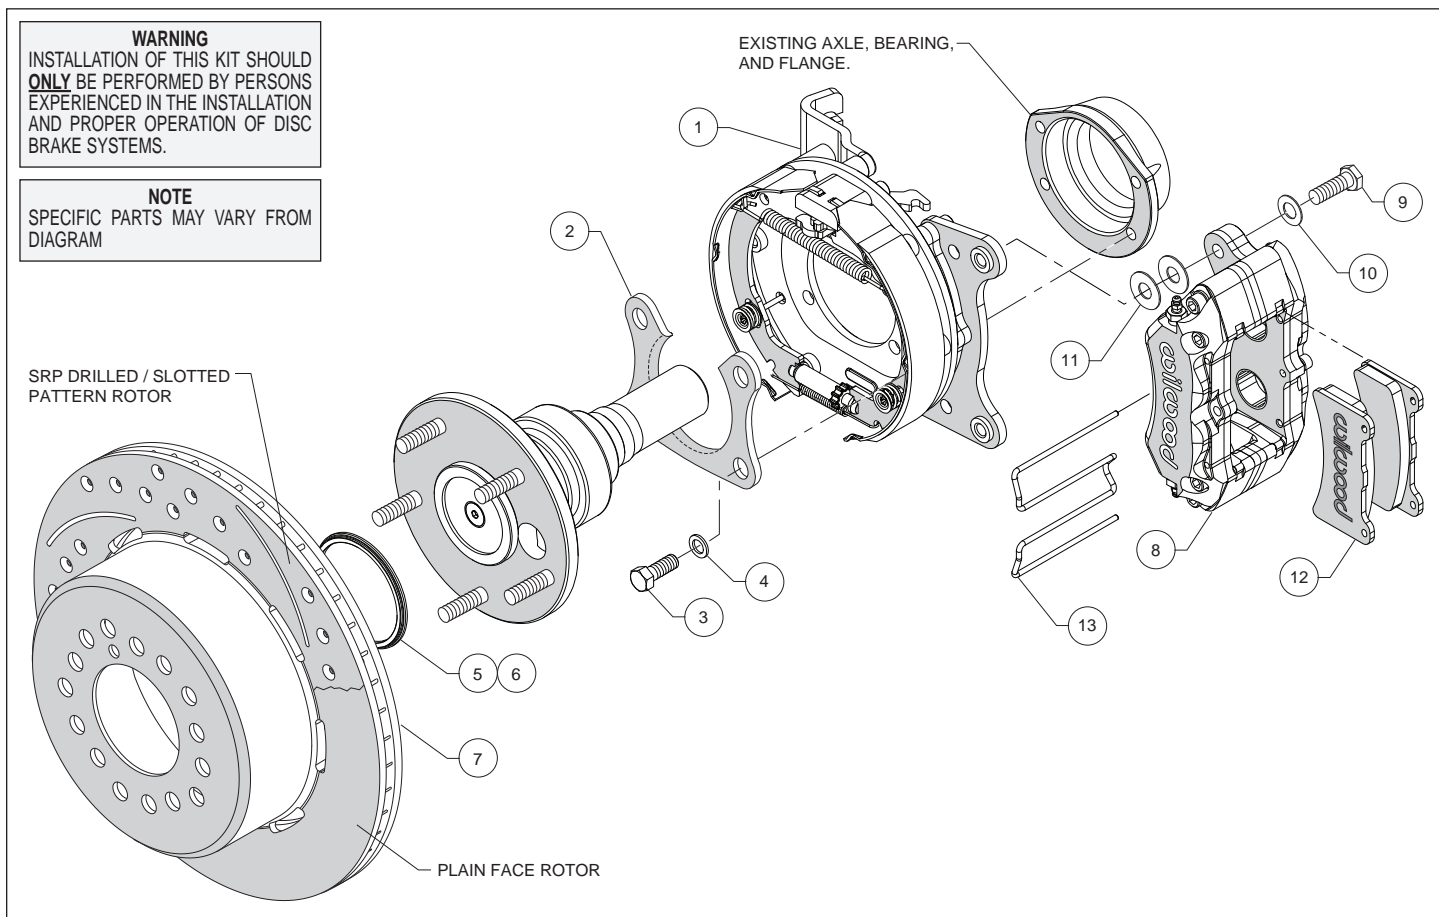
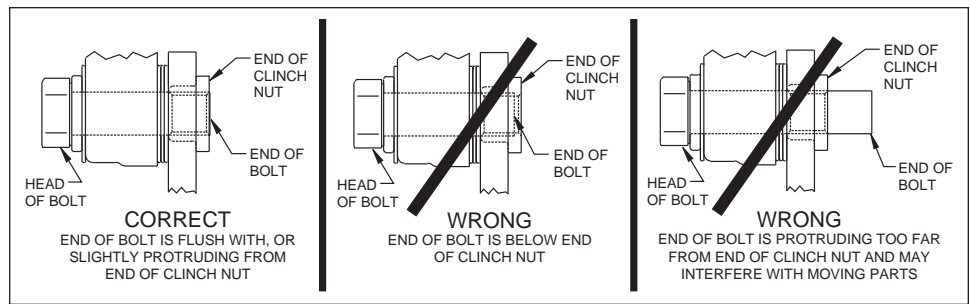

Figure 1. Typical Installation Configuration
Figure 5. Clinch Nut Engagement Diagram
**Assembly Instructions** (numbers in parenthesis refer to the parts list, and Figure 1 on the preceding pages): **CAUTION:** All mounting bolts must fully engage clinch nuts. Be sure to check that all bolts are either flush or protruding through flanged side of clinch nut after shimming, Figure 5.
- Orient the bracket assembly (1) as shown in Figure 1 and Photo 1 and slide it onto the axle. Insert the axle and bracket into the axle housing. Ensure that the bracket assembly backing plate fits flush against the axle housing flange.
- Install the bearing retainer (2) with the opening pointing upward and the lip facing inward (toward the bearing), as shown in Figures 1 and 4, and Photo 2. Secure retainer and bracket assembly to the axle housing flange using bolts (3) and washers (4), Figure 1. Apply red *Loctite*® 271 to the bolt threads and torque to 40 ft-lb.
•Slide the rotor registration adapter (5 or 6, depending on which axle is being used) onto the axle register on the axle flange with the smaller O.D. facing toward the rotor/hat (7), Photo 3. Align the correct hole pattern in the rotor/hat with the stud pattern on the axle flange and slide into place, Figure 1 and Photo 4. **NOTE:** The rotor/hat must fit flush against the axle flange or excessive rotor run out may result. Install three lug nuts (finger tight) to keep the rotor/hat assembly in place while continuing with the installation. **NOTE:** Some OEM and after market axles come with stud sizes larger than 0.50" diameter. Verify stud size and have a qualified machine shop drill the bolt circle of the hat/rotor to the correct stud size, if necessary.
•**NOTE:** Please reference the caution statement at the beginning of the assembly instructions. Mount the caliper (8) onto the caliper mounting bracket (1) using bolts (9) and washers (10), as shown in Figure 1. Initially place two .035" thick shims (11) on each bolt between the caliper and the bracket, Photo 5. Temporarily tighten the mounting bolts and view the rotor (7) through the top opening of the caliper. The rotor should be centered in the caliper, Photo 6. If not, adjust by adding or subtracting shims between the bracket and the caliper. Always use the same amount of shims on each of the two mounting bolts. **NOTE:** The end of each bolt must be flush with or slightly protruding from the head of the clinch nut, as shown in Figure 5. If necessary place spare shims between washer (10) and caliper mounting ear to achieve the proper clinch nut engagement. Once the caliper alignment and clinch nut engagement are correct, remove the bolts one at a time, apply red *Loctite*® 271 to bolt threads, and torque to 40 ft-lb.